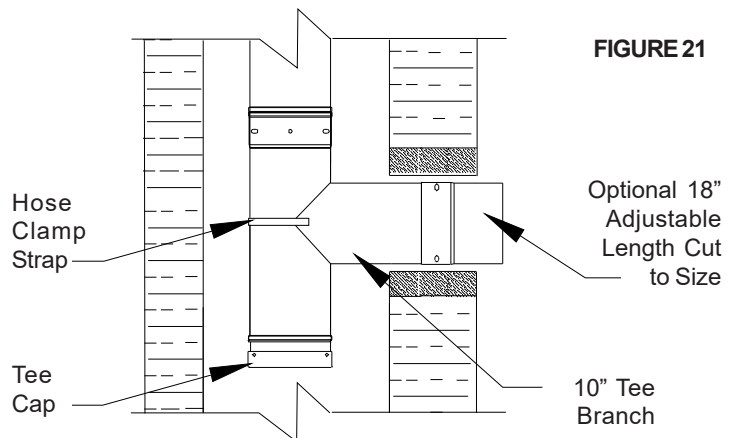

FIGURE 21
- Make sure the Tee Branch is long enough to protrude into the room by at least 50mm (2") so that a connector pipe can be attached to it (see Figure 21). If a longer length is required install an 18" Adjustable Length and cut to the required length.